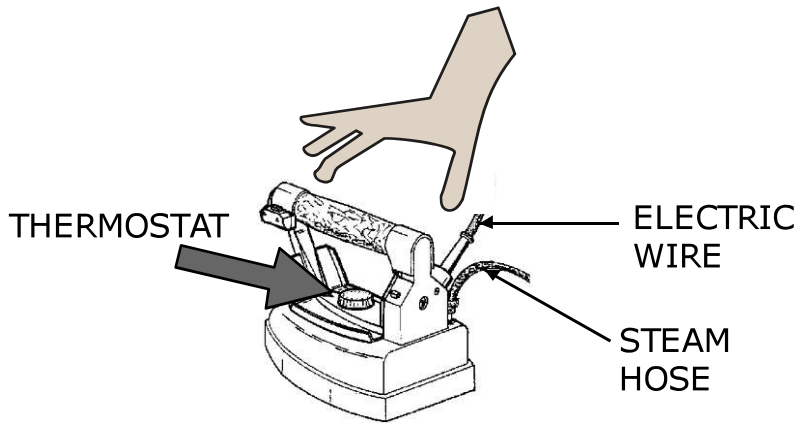

Fig. 3
3. Switch on the main switch and the boiler (fig. 2 A e B) and set board thermostat on 80/90° (fig. 2 G), when the lamp F switches off the board has reached the preset temperature. Five minutes later switch on the iron (fig. 2 C) and adjust the thermostat on "cotton" (fig. 3).
4. For dry ironing it is possible to adjust the thermostat (fig. 3) on different positions according to the type of fabric (look at garment label). For steam ironing, set the thermostat on "cotton" or "linen".
3. steam tube and iron cable once they seem damaged (fig. 3);
6. iron overheating or loss of water from the iron (fig. 3);
7. washing or cleaning the iron using water (fig. 3);